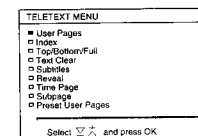

Fig. 40
- 1 Press MENU. The menu will be superimposed on the teletext display. (See Fig. 40)